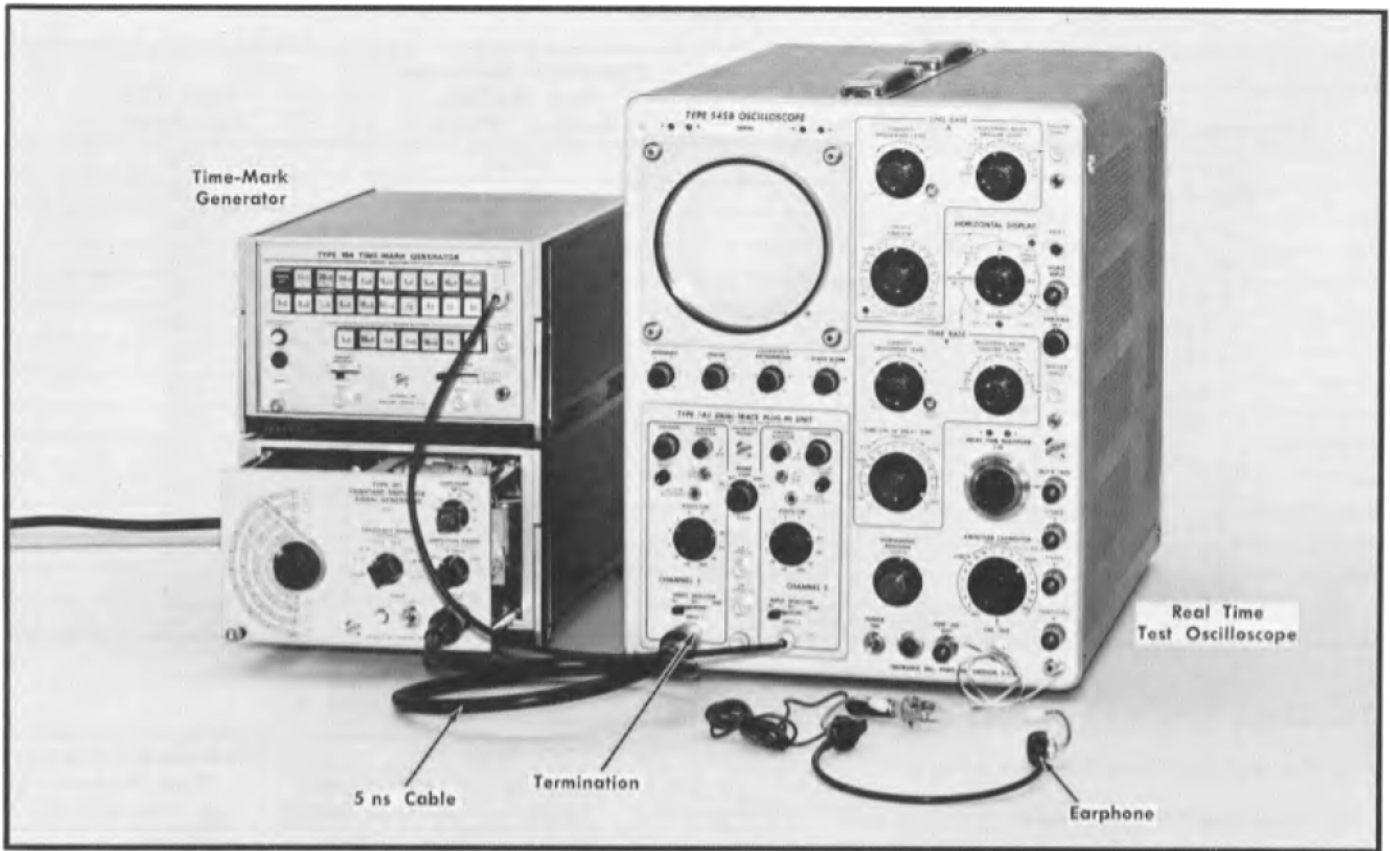

Fig. 6-14. Test equipment setup for steps 10 and 11.
- a. Test equipment setup is shown in Fig. 6-14.